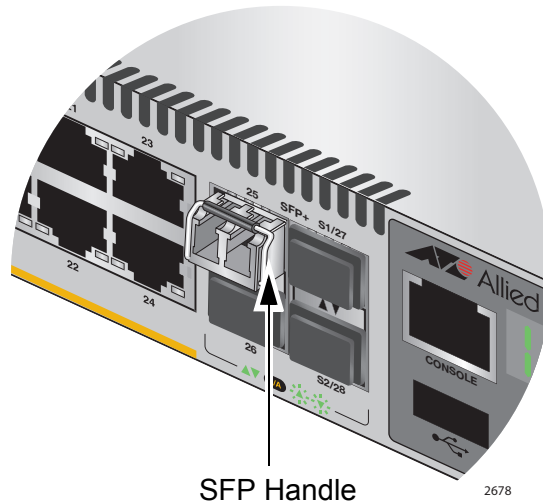

Figure 73. Positioning the SFP or SFP+ Handle in the Upright Position
6. Verify the position of the handle on the SFP transceiver. If the transceiver is in a top slot, the handle should be in the upright position, as shown in Figure 73 on page 119. If the transceiver is in a bottom slot, the handle should be in the down position.